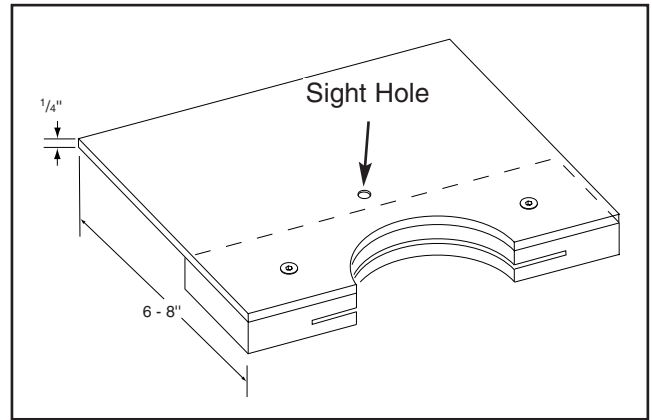

Figure 3. Attaching upper pattern guide.
4. The pattern is the surface which the router plate will sit on. Take a piece of plywood or Masonite™ which is approximately 1/4" thick and measures 8" wide and is the same overall length as the guide runner made above. Attach the guide runner to the edge of this piece with two or more flush mounted wood screws and wood glue. (See Figure 3) Make sure the front edge is flush with the edge of the guide runner.